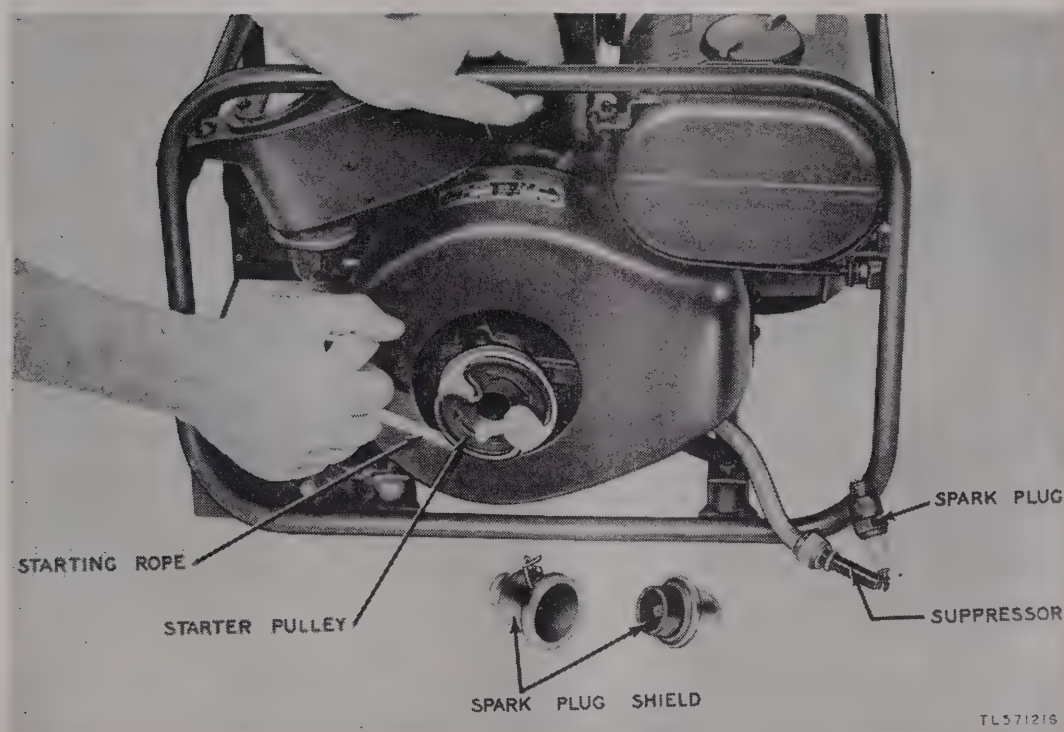

Figure 29. Testing spark plug for spark.
c. TESTING (fig. 29). Test for a defective spark plug as follows:
(1) Lay the spark plug metal body on the engine base. Unscrew